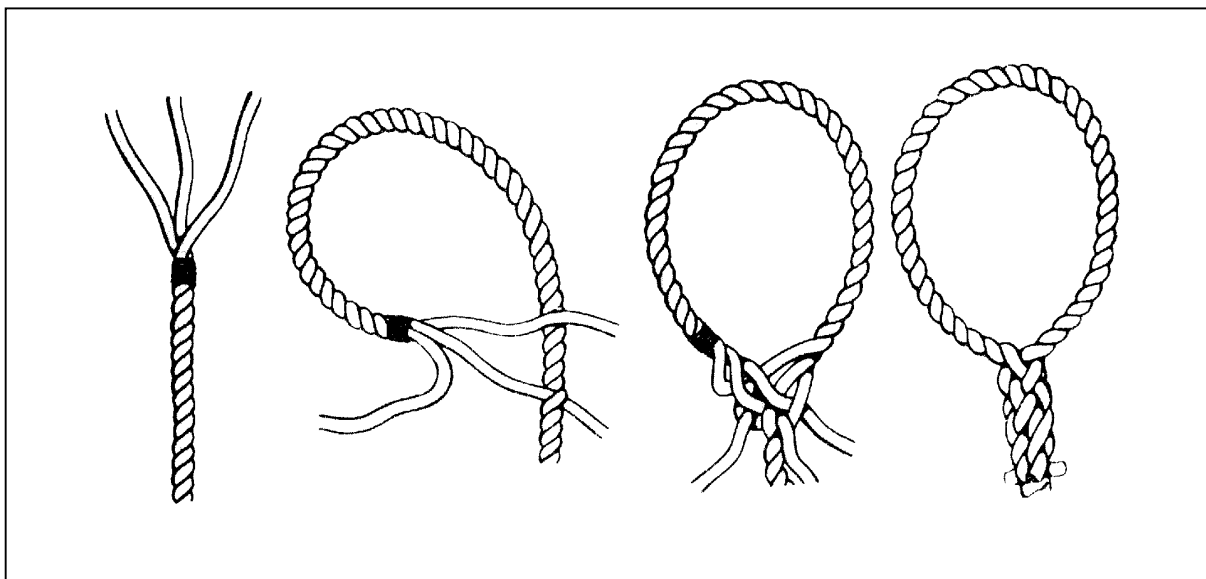

Figure 11-4. Regular eye splice
f. **Regular Eye Splice.** A regular eye splice (Figure 11-4) is used to make a permanent loop at the end of a line. A regular eye splice is made by untwisting the strands at the end of the line and interweaving them with the strands in another part of the line.